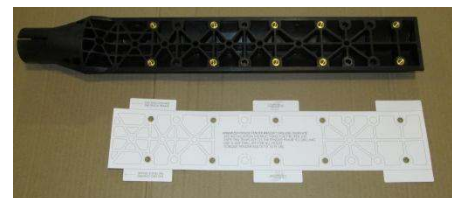

Figure 12
a. Unpack the provided paper drilling templates that match the PB5030 bracket as shown in Figure 12.